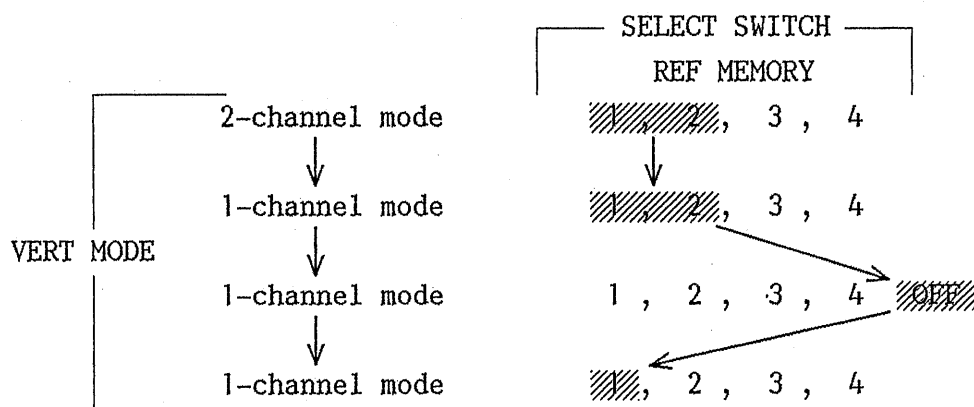

Figure 5-2. Relationship Between Vertical Channels and Reference Memory Units
The reference memory units are assigned as selected by the REF MEMORY switch ④⑥ to the channels selected by the VERT MODE switch ③⑨. Indication of memory assignment remains unchanged even when you have changed the number of channels with the VERT MODE switch ③⑨. As you press the REF MEMORY switch ④⑥ again, the reference memory is turned off. As you press the switch once more, the reference memory units are assigned to the channels you have selected. (See Figure 5-2.)